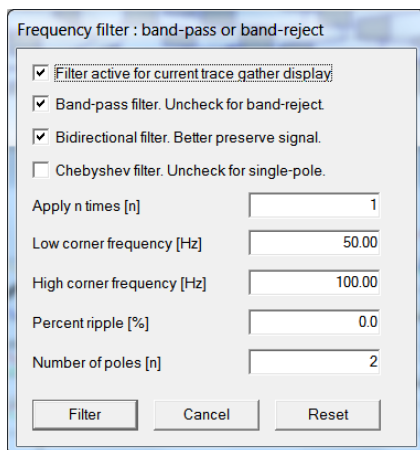

Fig. 13 : Trace|Shot gather SHIFT+Q Bandpass
- select **Trace|Shot gather**. Press SHIFT+Q keyboard shortcut and edit bandpass as in Fig. 13